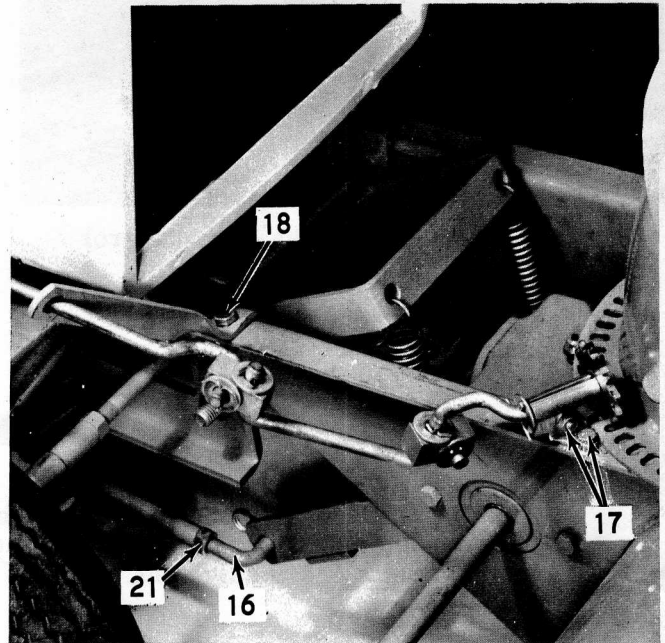

Figure 12. Installing the Elbow Control Assembly
16. Connect the rod ends of the lift arm assemblies to the attaching bars on the auger housing. Secure with the plain washers and safety pins to the inside of the attaching bars. See Figure 12. Also, see Paragraph 21 for final adjustment.
17. Place the elbow control sprocket into the notches on the elbow base ring and secure the support bracket to the upper flange on the right auger housing adapter plate, Figure 12, with the two preassembled 1/4" bolts, nuts, and lockwashers.
18. Slip the smaller of the two elbow control rod support bars onto the control rod and secure it to the right auger housing adapter plate, Figure 12, with the preassembled 3/8" bolt, nut, and lockwasher.
21. Check the snowcaster for level and for adequate ground clearance in the transport position. Clearance from the bottom lip of the auger housing to the ground should be 5-1/2 to 6-inches at both ends. Adjust the rod ends of the lift arm assemblies, Figure 12, as necessary to achieve proper transport clearance and for level ground contact. Inadequate transport clearance can cause the auger to run into obstruction when negotiating rough terrain. Excessive clearance adjustment may cause the hex end of the drive shaft to "jam" in the pulley hub resulting in damage to the pulley or drive shaft assemblies.